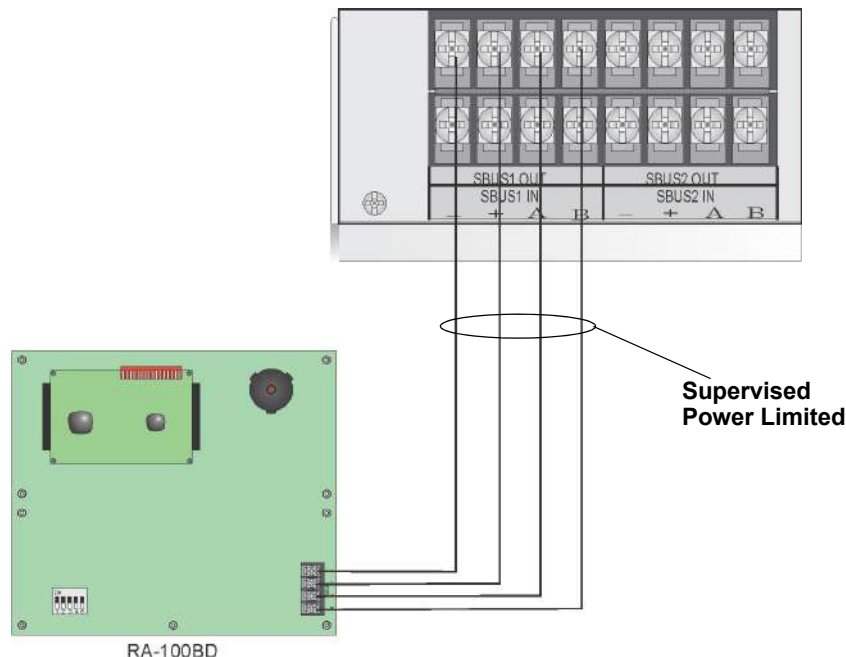

Figure 4.30 Model RA-100 Connection to the Panel
5. Connect wires from the RA-100 to the SBUS connectors on the FACP. (See Figure 4.30).
Connect the RA-100 to the panel as shown in Figure 4.30.